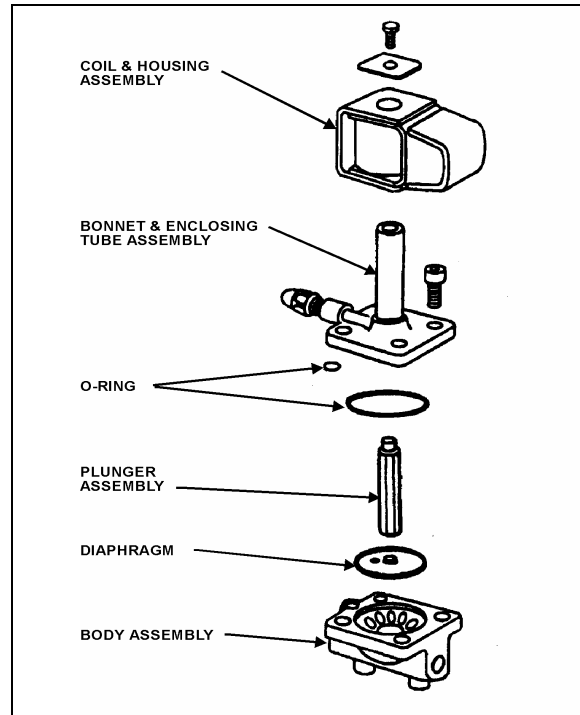

FIGURE 37: REFRIGERANT SOLENOID VALVE 22044
3. Remove the four socket head screws which hold the body and bonnet together (Figure 37).